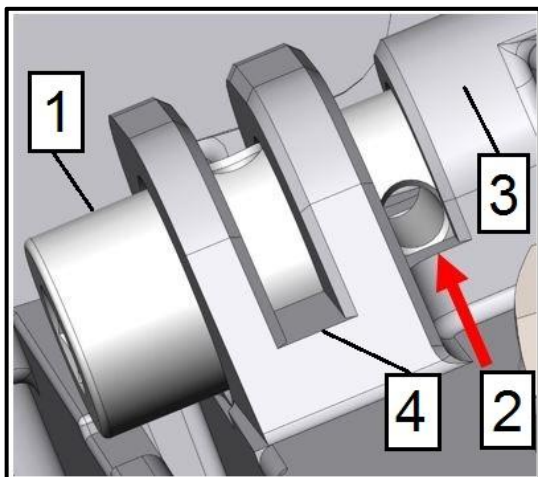

Fig. 44
4. Turn the screw (pos. 1, Fig. 44) 90 degrees counterclockwise. Match the adjacent hole in the adjusting screw (relative to item 3) with the adjacent hole in the housing (relative to item 3) (pos. 3, Figure 44). This will reduce the tension of the chain and prevent it from stretching too early. According to paragraph 3, the first hole in motion and the first groove in motion.